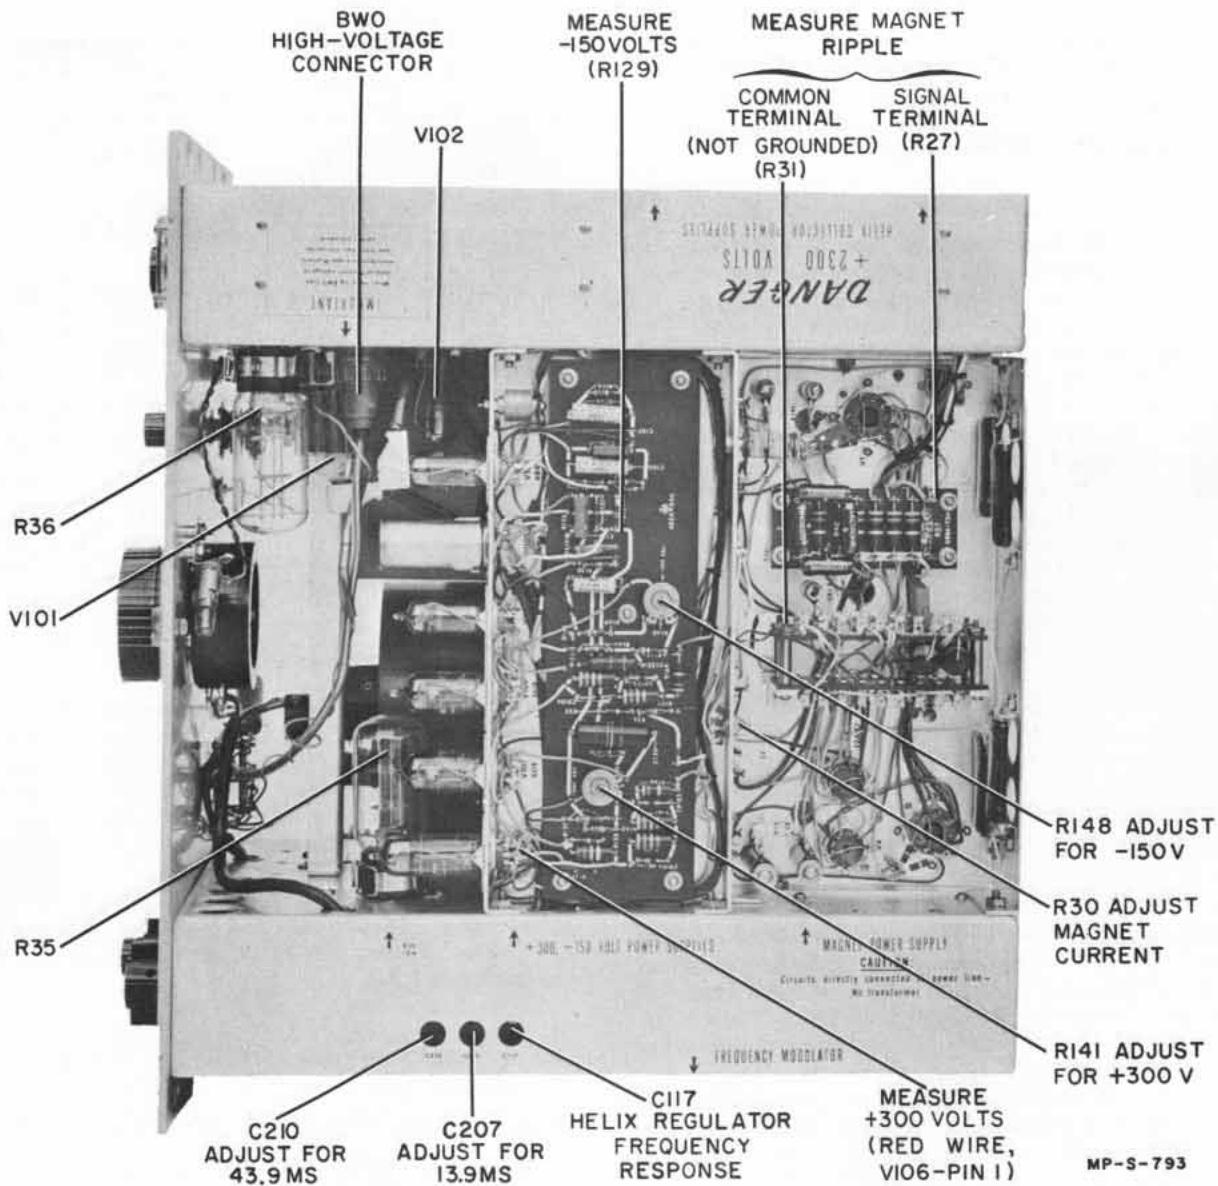

Figure 4-5. Model 686C Top View
- 1) Connect the 412A voltmeter from chassis to -150 volts at R129 (150K white wire). (See figure 4-5.) Adjust power line voltage to 115 volts.
- 1) Connect the 412A between chassis and +300 volts at red wire, V106 Pin 1. (See figure 4-5).